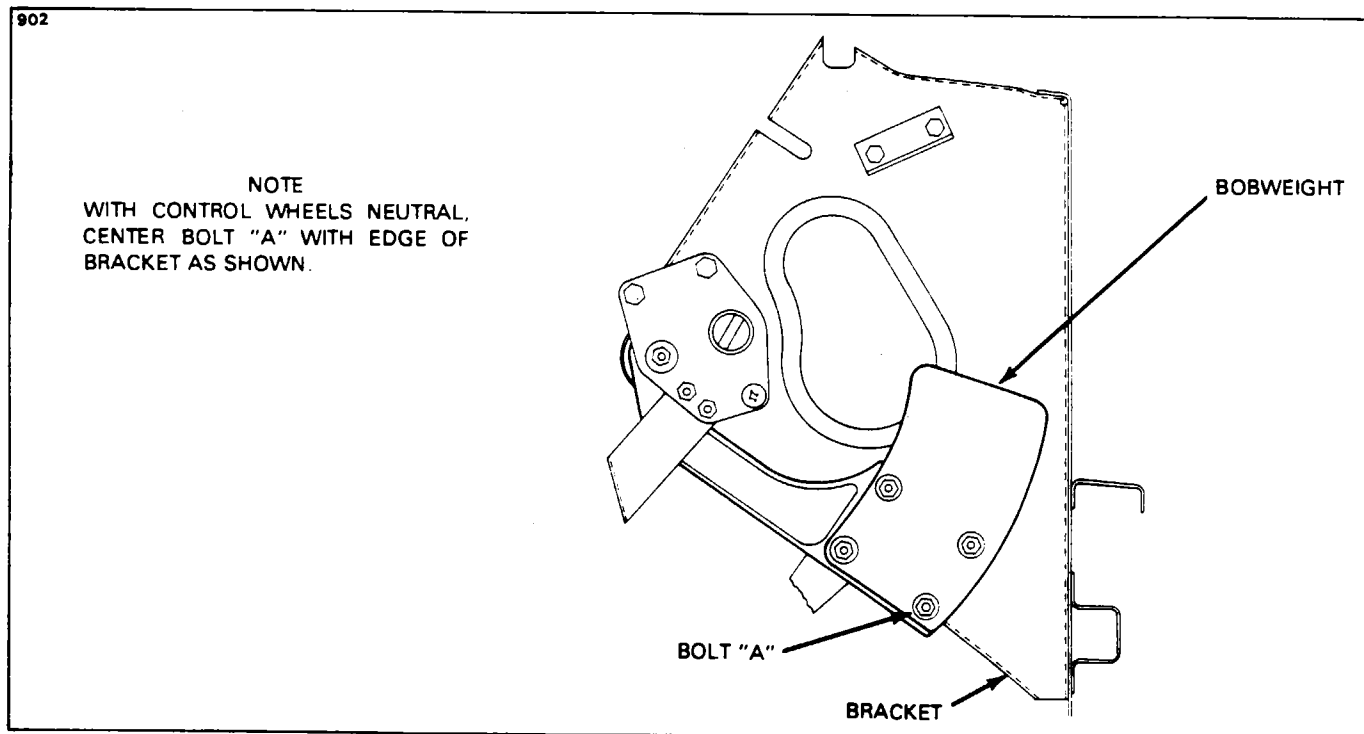

Figure 27-5. Rigging Bobweight
9. Rig the bobweight so that with control wheels in their neutral position, the center of bolt A (refer to Figure 27-5) will be in line with the edge of the bracket.